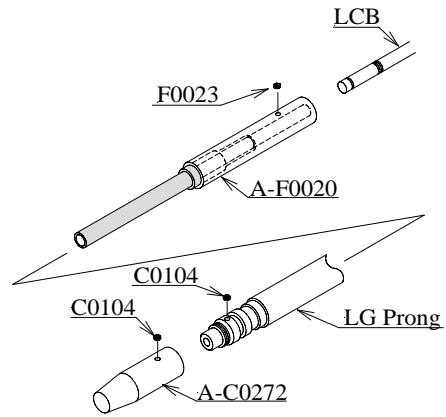

Fig.2-7
5. PCB and LG Cover Glass Set disconnection: (Fig.2-7)